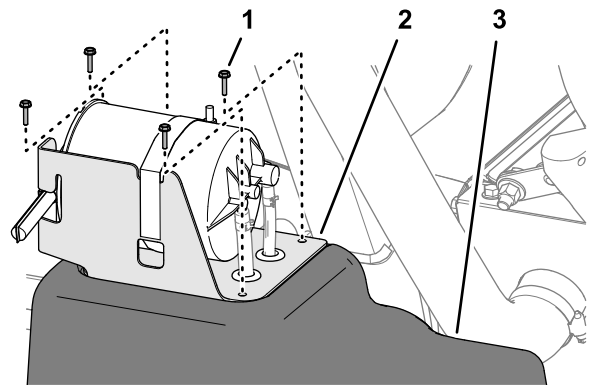

Figure 84
2. At the fuel tank, remove the 4 screws (#10 x 3/4 inch) that secure the carbon-canister bracket to the top of the fuel tank (Figure 84).